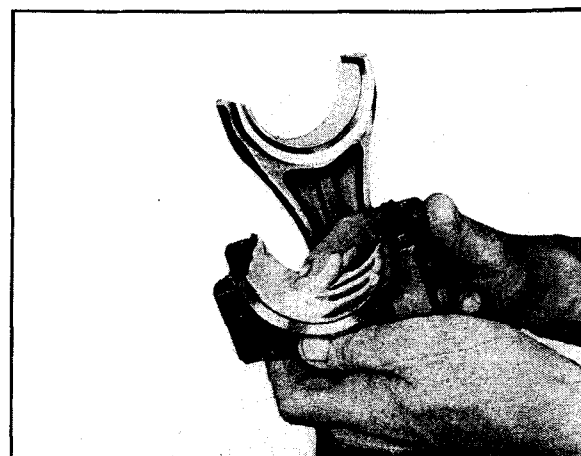

Fig. 12-24. Applying Lubriplate to rod shells
6. Coat the connecting rod bearing shells with Lubriplate. Fig. 12-24.